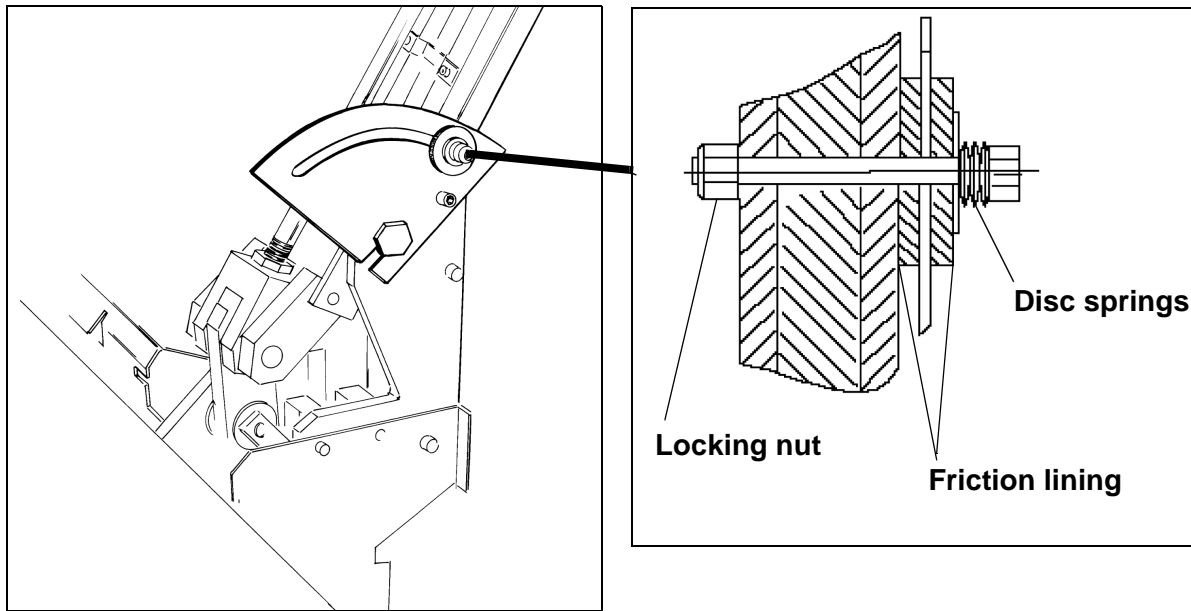

Fig. 27
- Remount the screw and the disc springs (fig. 27). Secure the screw with the locking nut.